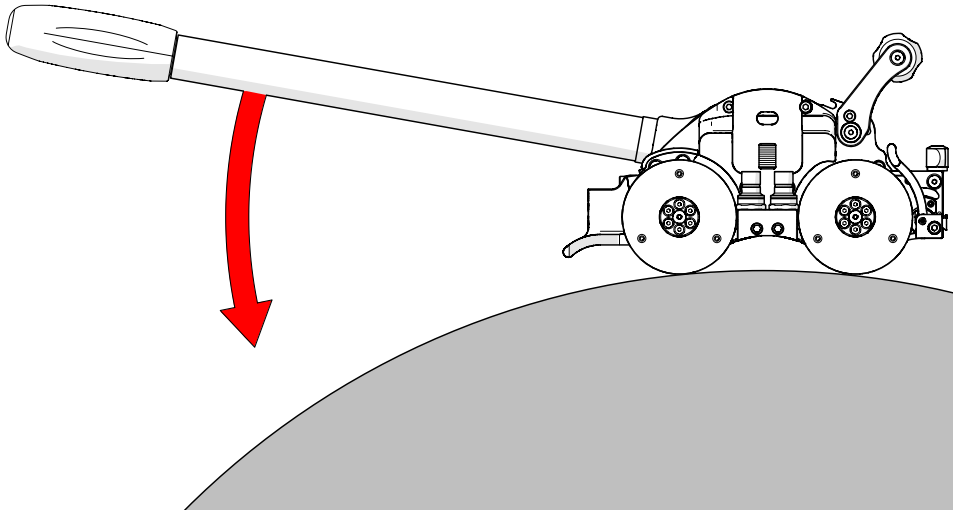

Fig. 184 - Press down on manipulation handle
2. Firmly grasp the crawler handle with one hand, and the manipulation handle with the other, carefully press down on the manipulation handle to lower the pry point of the crawler towards the inspection surface (*Fig. 184*).